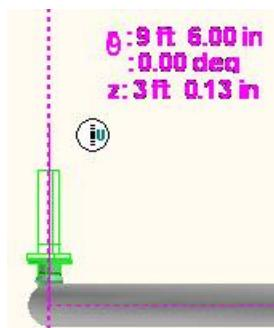

Figure 11.28: Pipe Route in Up Direction
26. Route the pipe in the Up direction as shown in Figure 11.28.